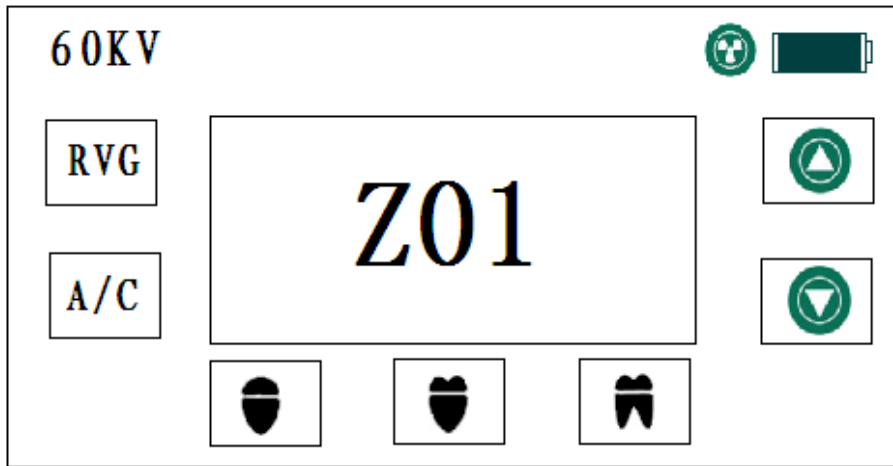
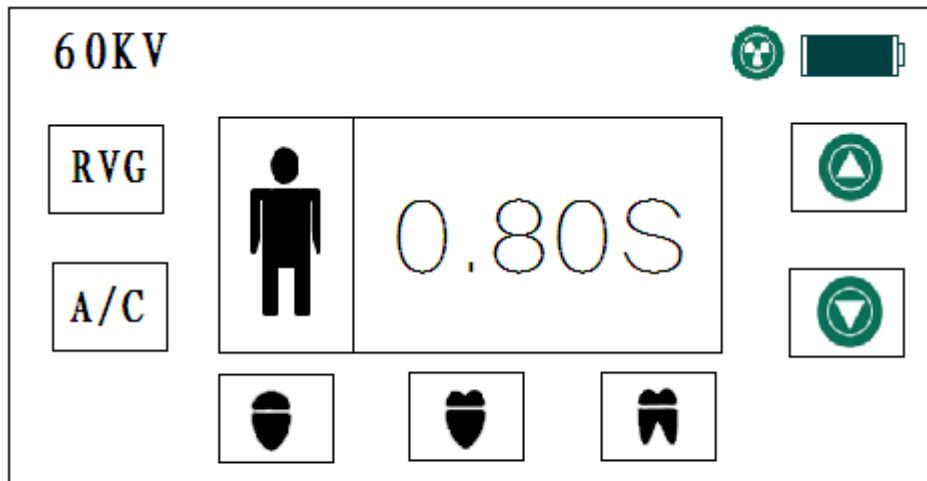

图 1
图 2
2. In the process of loading equipment will start self-checking function, If have the failure will display failure code (please see note 4.5 fault code specific fault code), are shown in figure 1 below: If trouble-free, into the normal state, as shown in figure 2: